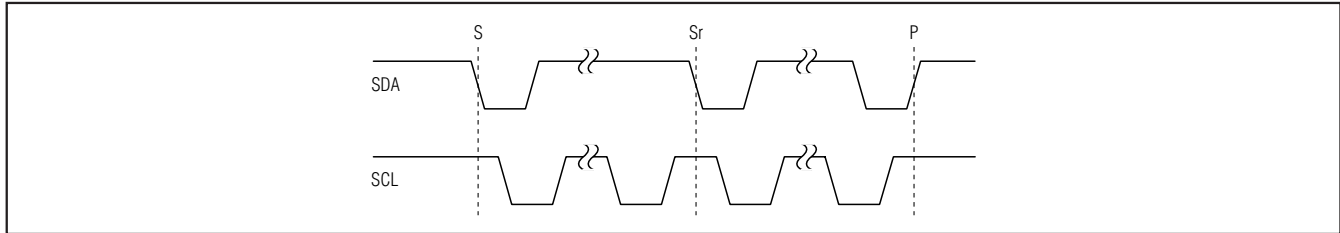

Figure 7. START and STOP Conditions
The master initiates a transmission with a START condition (S), a high-to-low transition on SDA with SCL high. The master terminates a transmission with a STOP condition (P), a low-to-high transition on SDA while SCL is high (Figure 7). The STOP condition frees the bus and places all devices in F/S mode (see the *Bus Timing* section). Use a repeated START condition ( $S_r$ ) in place